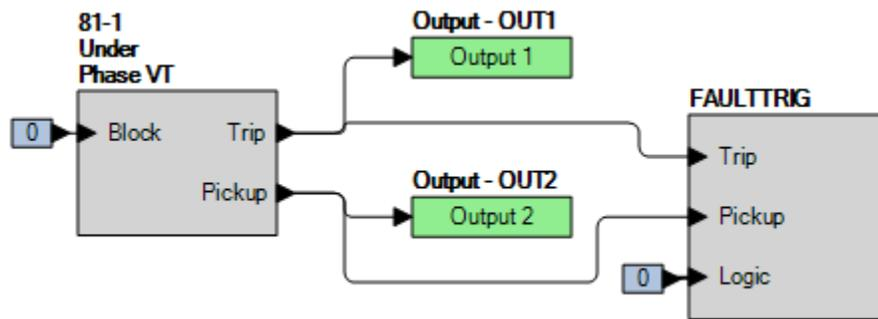

Figure 47-2. BESTlogicPlus Settings (Underfrequency)
- Step 2: Use BESTCOMSPlus to configure the BESTlogicPlus programmable logic shown in Figure 47-2.
- Step 4: Prepare to monitor the 81-1 function operation. Operation can be verified by monitoring OUT2 (see Figure 47-2).